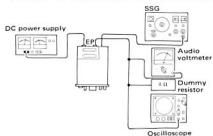

Fig. 16 IF Circuit Adjustment
- (1) Disconnect the sweep generator and detector, and connect SSG and AF valve voltmeter as shown in Fig. 16.
- (2) Turn the (4)-(5)-RPT knob to (5), channel knob to Position "00", and set the AUX switch at OFF.